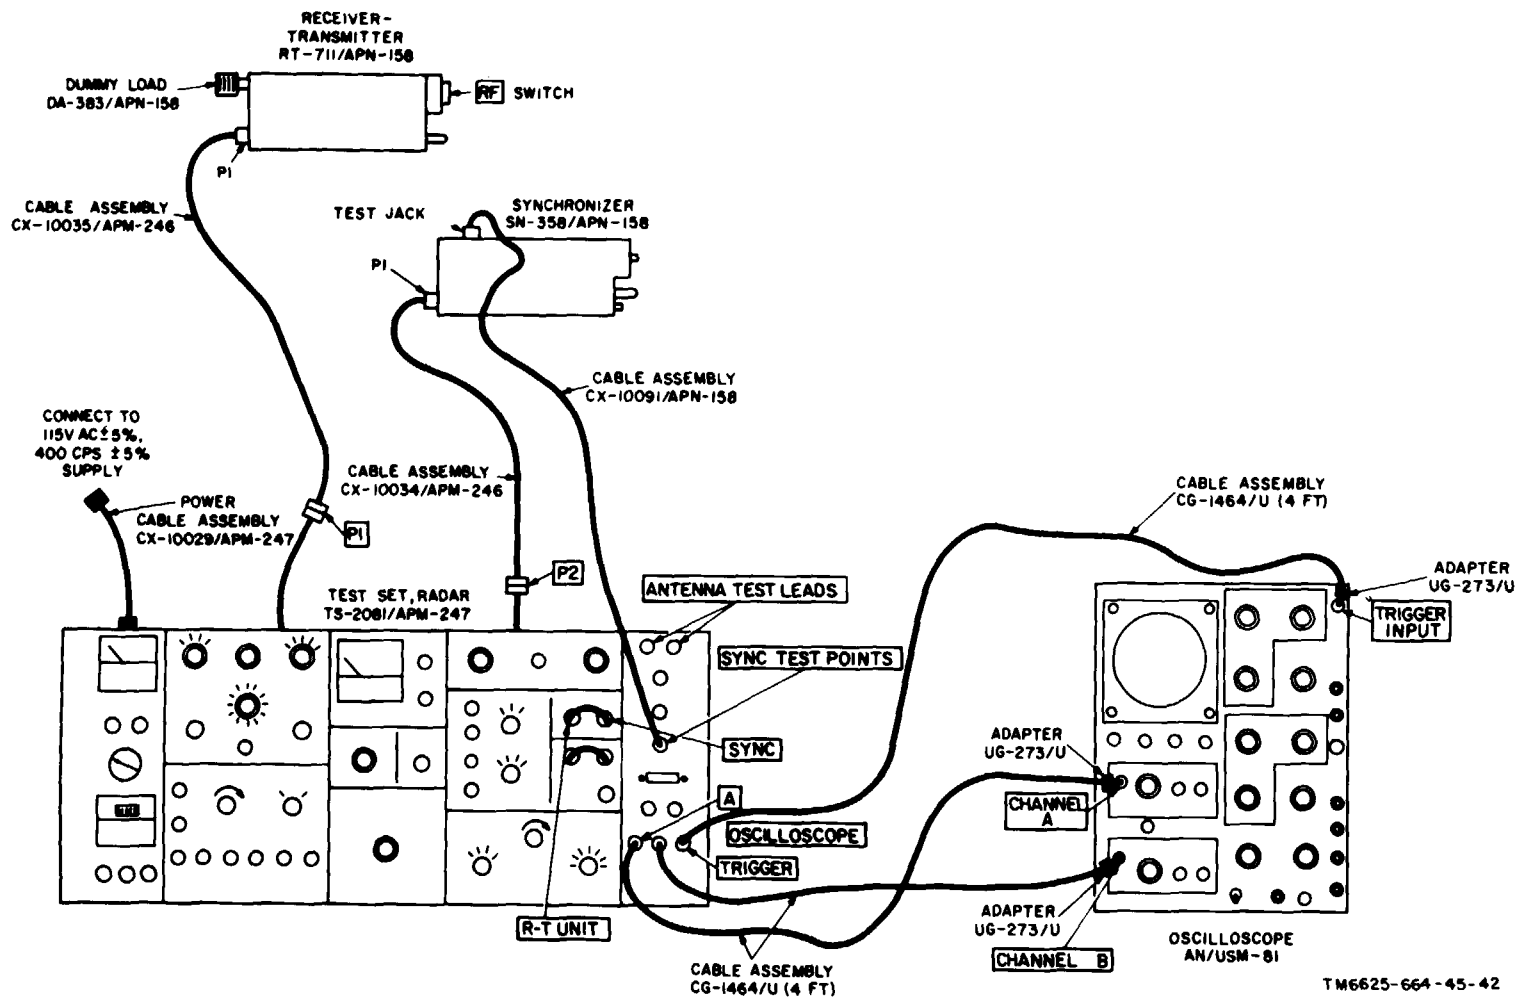

Figure 4-6. Sweep calibration, afc, stc, and video test connection diagram.
*b. Test Connections and Conditions.* Connect the test equipment as shown in figure 4-6.